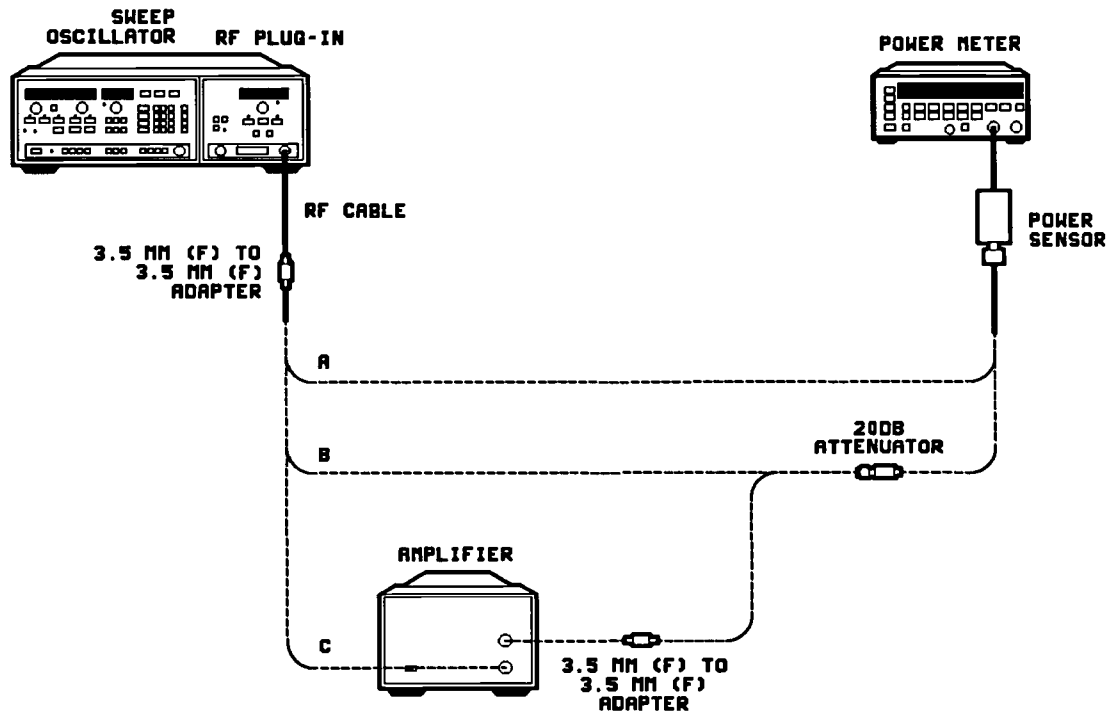

Figure 4-2. Small Signal Gain Test Setup
- Connect the equipment as shown in Figure 4-2, point Ⓐ, with the power sensor connected to the 3.5 mm(f) adapter (without the amplifier, the second 3.5 mm(f) adapter, or the 20 dB attenuator).
- a. Connect the 20 dB attenuator between the adapter and the power sensor, as shown in Figure 4-2, point ③.
- a. Connect the equipment as shown in Figure 4-2, point ④, with the amplifier and the second 3.5 mm(f) adapter connected between the first 3.5 mm(f) adapter and the power sensor (you must use the same 20 dB attenuator as in the previous steps).